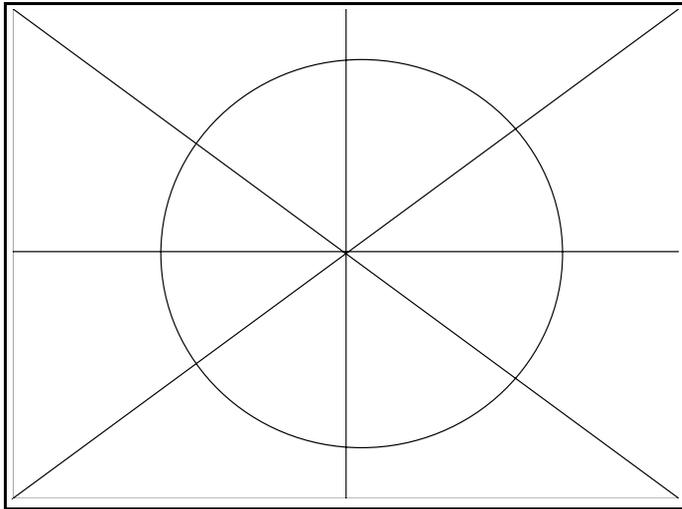
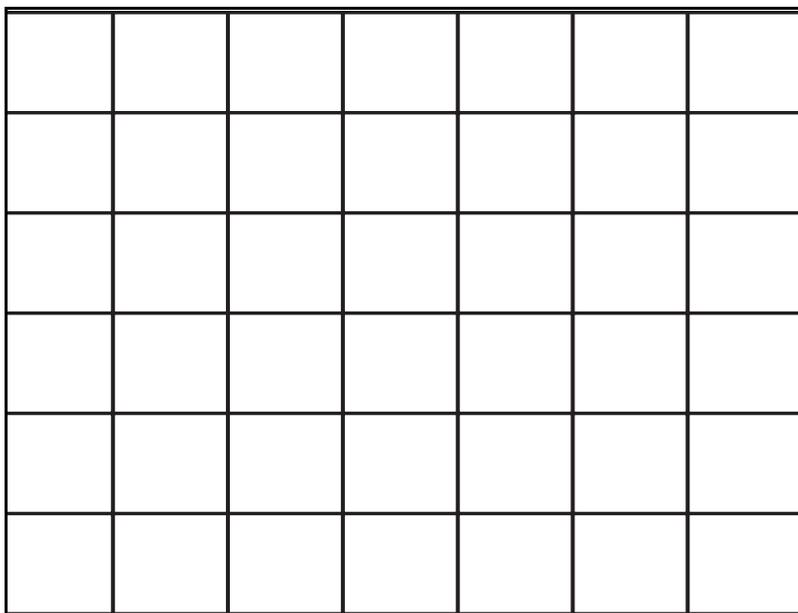

Figure 7-49 Monitor Test
Figure 7-51 Monitor Test
**NOTE:** The patterns in Figure 7-49 to Figure 7-52 are written on the overlay where as the pattern in Figure 7-53 to Figure 7-55 is written on the image memory.
Figure 7-49 to Figure 7-51 are also available in reverse video.